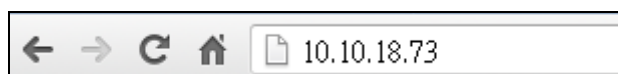

Figure 4-18: IEI iMAN Web Address
Step 2: On the remote management console, open a web browser. Enter the managed system IP address in the web browser (**Figure 4-18**).